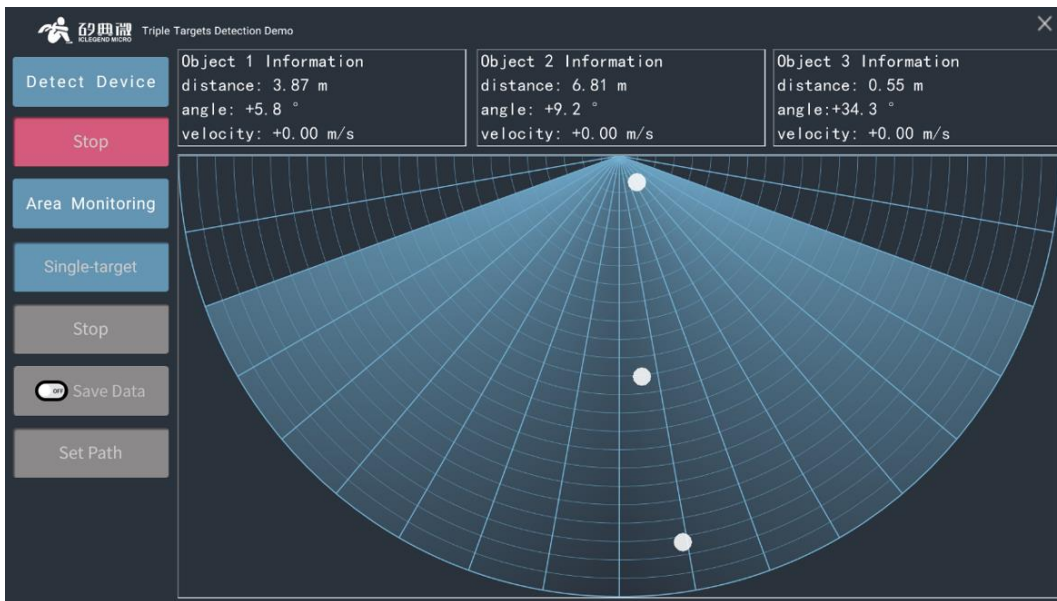

Figure 4-6 Example of triple-target detection demonstration
Step 4: By default, the software works in Single Target Detection mode, to switch to Multiple Target Detection mode, click the **Multi-target /Single-target** toggle button, the Triple Targets Detection Demo¹ will appear, as shown in Figure 4-6; to switch back to Single Target Detection Mode², click the **Multi-target /Single-target** toggle button again.